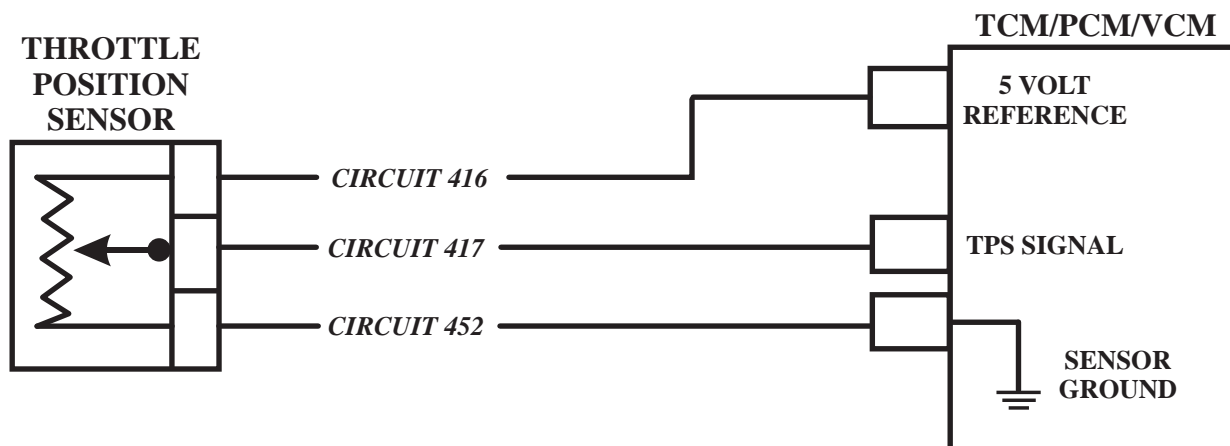

Figure 65
- The TPS ground circuit 452 is poor, (Refer to Figure 65).
- The TPS 5 volt supply circuit 416 is shorted to power, (Refer to Figure 65).
- The TPS 5 volt supply circuit 416 , has something less than 5 volts, (Refer to Figure 65).
- The TPS 5 signal wire, circuit 417, is shorted to power, (Refer to Figure 65).
- The TPS signal wire, Circuit 417, is shorted to power, (Refer to Figure 65).
- The TPS signal circuit 417 has a poor connection, (Refer to Figure 65).
- TPS 5 volt reference circuit 416 has a poor connection, Refer to Figure 65).